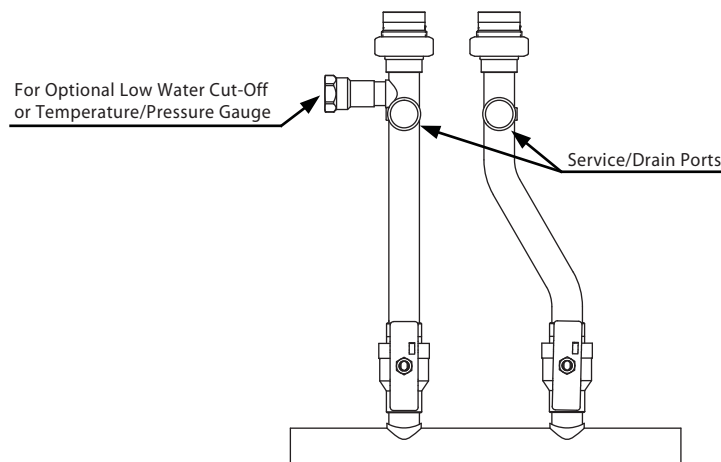

FIGURE 3: Available Ports on the NCB Series Primary Manifold
- Additional accessories such as temperature/pressure gauges and optional low water cut-offs can be installed onto the additional ports below (see **FIGURE 3**).